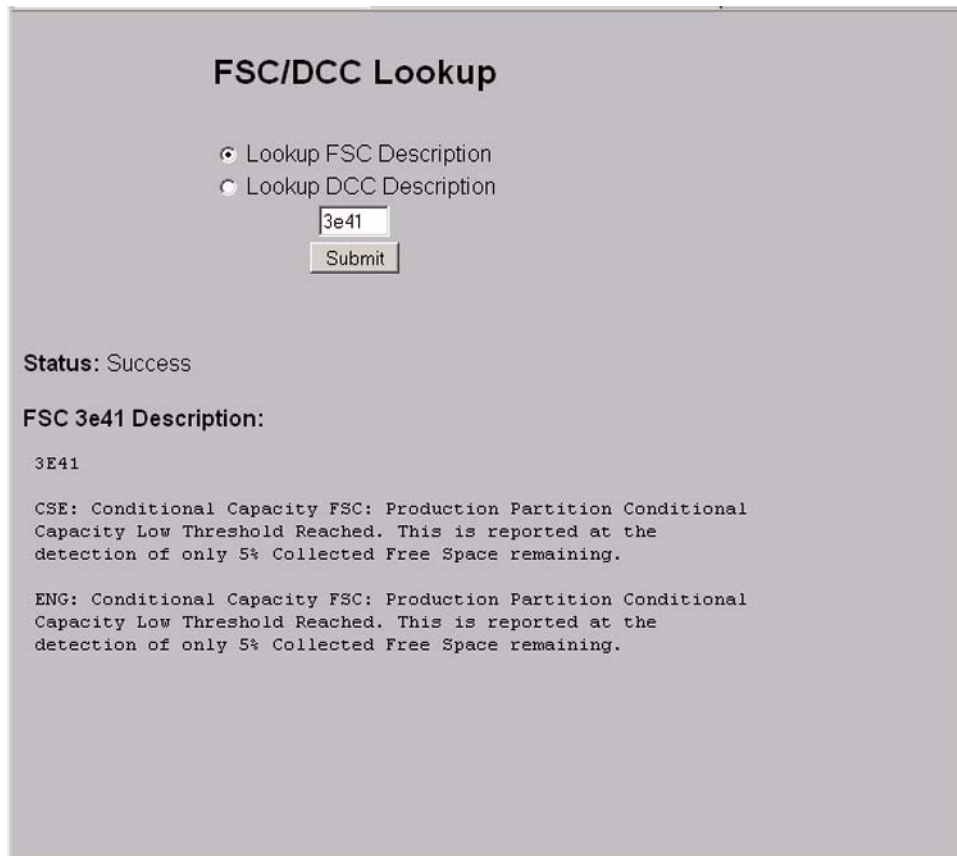

Figure 24 FSC/DCC Lookup Screen with FSC3a41 Showing.
2. Clicking on that button brings up the lookup screen as shown in Figure 24 on page 60.
5. Click on the Submit button. The results of the search are shown in the something as shown in Figure 24.